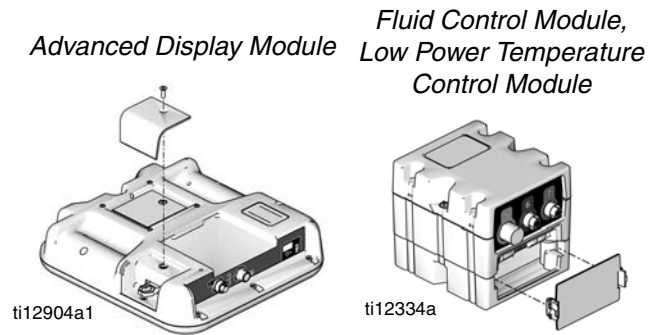

FIG. 41: Remove Access Panel
2. Remove token access panel. See FIG. 41.